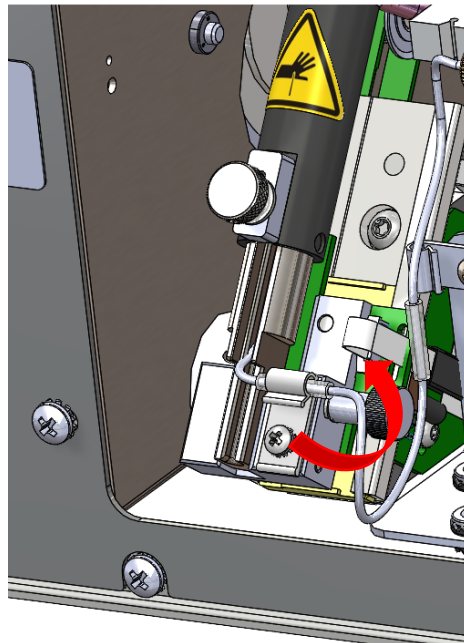

Figure 3
2. Unscrew thumbscrew about ½ inch and see if syringe pivots towards you. If it does not pivot, try unscrewing a little more, repeat until syringe pivots. See Figure 3.